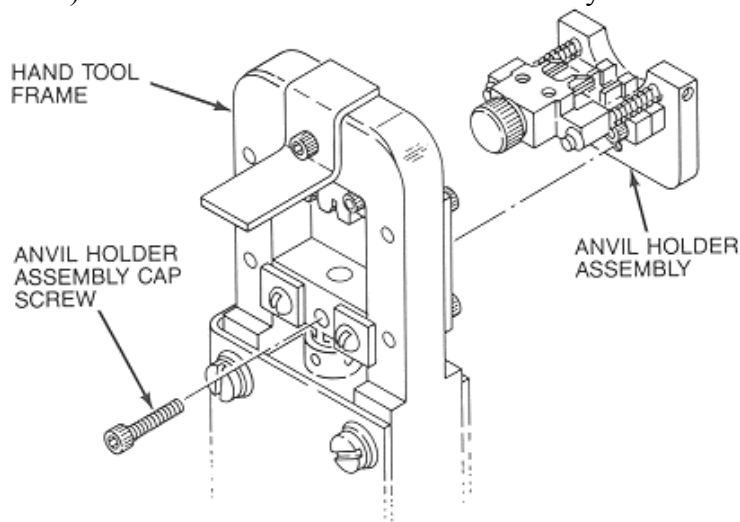

Figure 12
- Using the 7/64-inch Allen wrench, remove the cap screw securing the anvil holder assembly to the hand tool (see Figure 12). Then remove the anvil holder assembly.